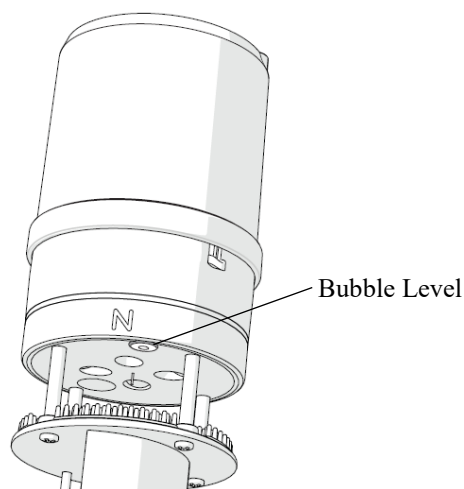

FIGURE 7-4. Bubble level on the ClimaVUE 50
4. Use a torpedo level or the bubble level underneath the sensor to level it (FIGURE 7-4). The angle of the instrument mount may need to be adjusted if the mast is not vertical. Shims can be added between the top of the mast and the bottom of the ClimaVUE 50 to achieve level. The sensor must be within $\pm 2^\circ$ of dead level (0, 0) in both the X and Y directions to accurately measure rainfall and solar radiation. The $\pm 2^\circ$ can be confirmed by viewing the Tilt North(+)/South(-) and Tilt West(+)/East(-) orientation values returned by the **R7!** command.